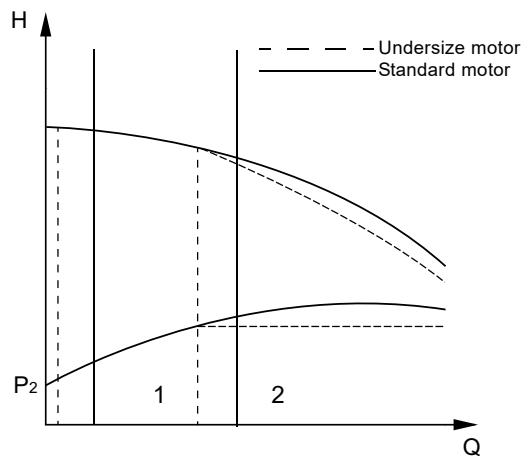

Fig. 27 Standard performance curve compared to a curve for a pump fitted with an undersize MLE motor.
Figure 27 shows that a pump operating at low flow rates and relatively high pressures (1) can be fitted with an undersize motor with a rated power that matches this operating range. At higher flow rates and relatively lower pressures (2), the motor will reduce its speed when the power limit is exceeded and follow a steeper curve corresponding to the power available.